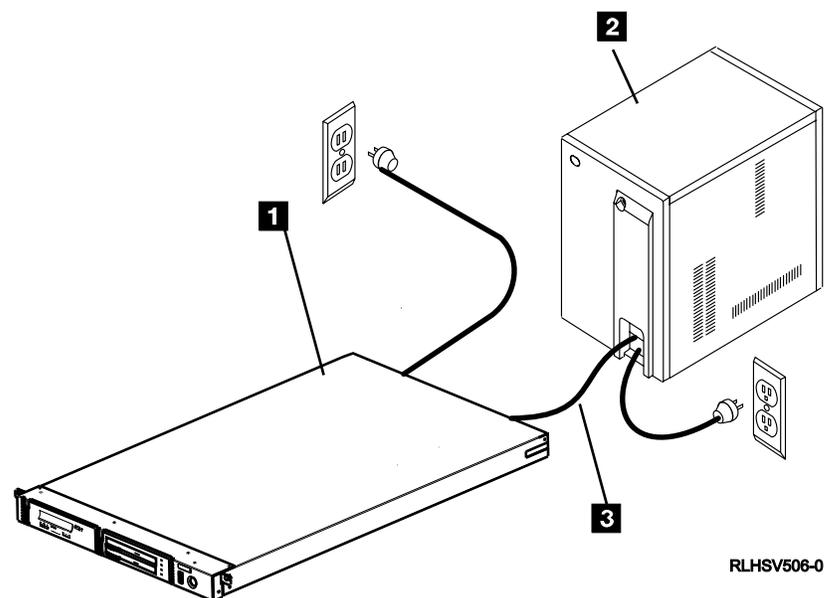

Figure 20. Performing the Safety Inspection
Figure 20 shows the components to review during the service inspection.
3. Turn off the power to the 7214 Storage Enclosure(**1** in Figure 20 on page 47).